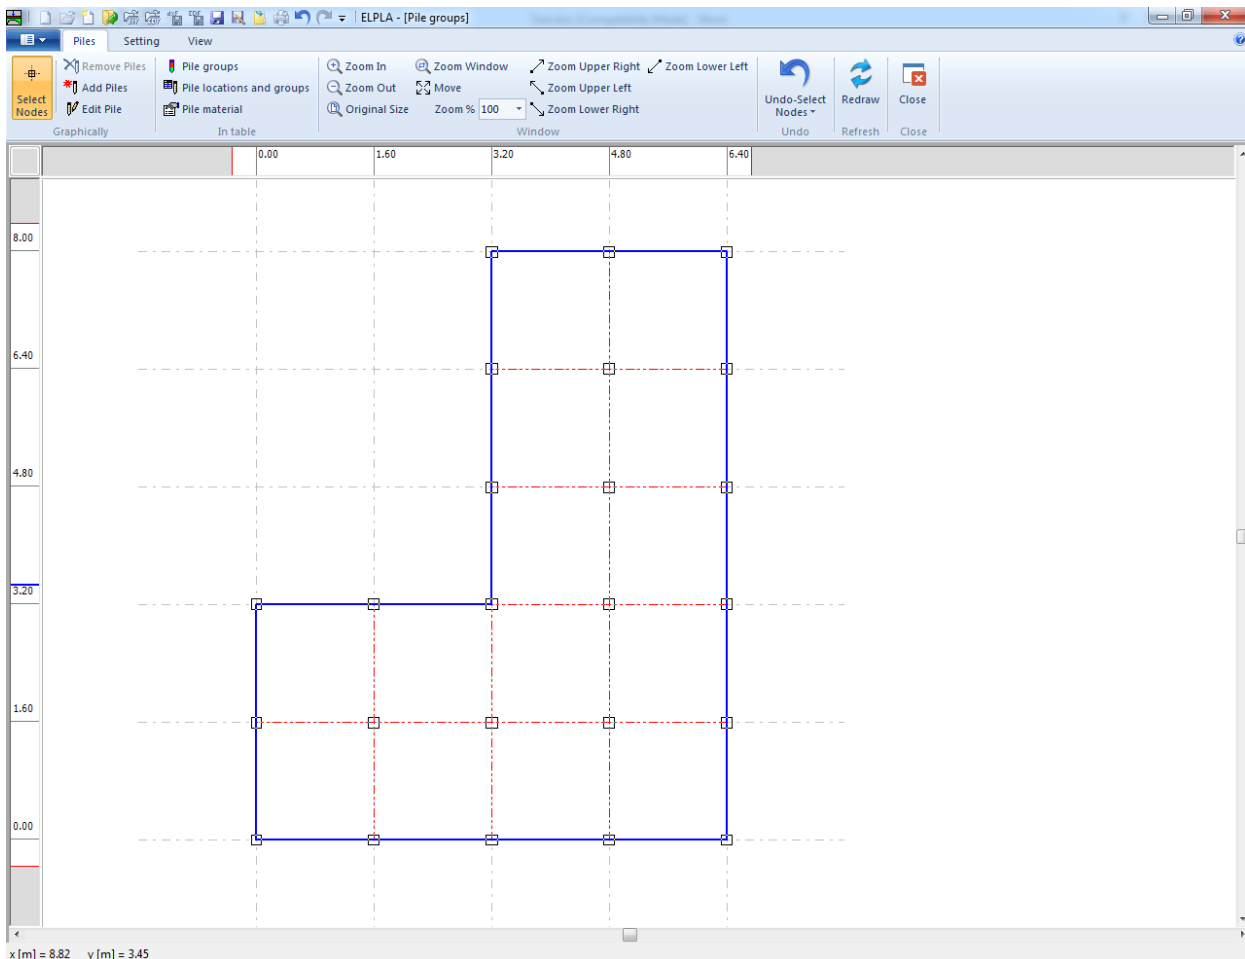
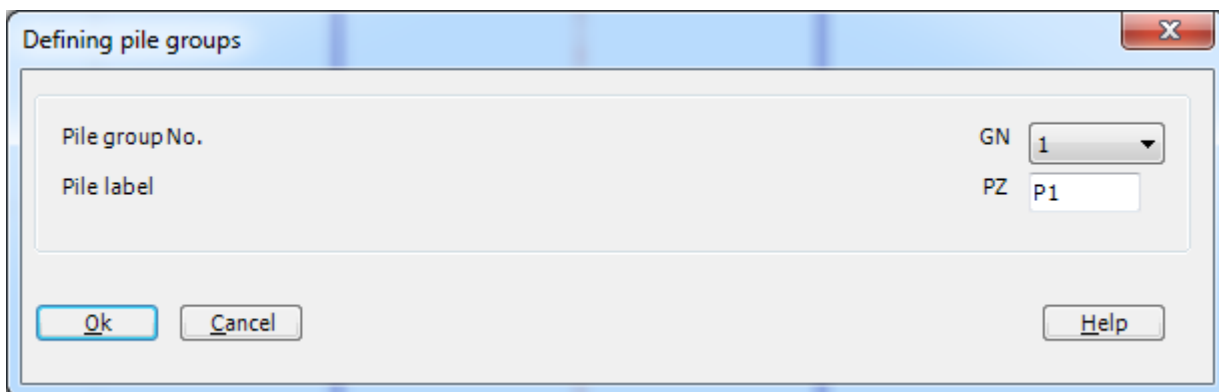

Figure 11.18 Selection of nodes that have piles
Figure 11.19 "Defining pile groups" dialog box
- Select nodes that have piles as shown in Figure 11.18
- Choose "Add Piles" command from "Graphically" menu in Figure 11.18. The "Defining pile groups" dialog box in Figure 11.19 appears. In this dialog box click "OK" button